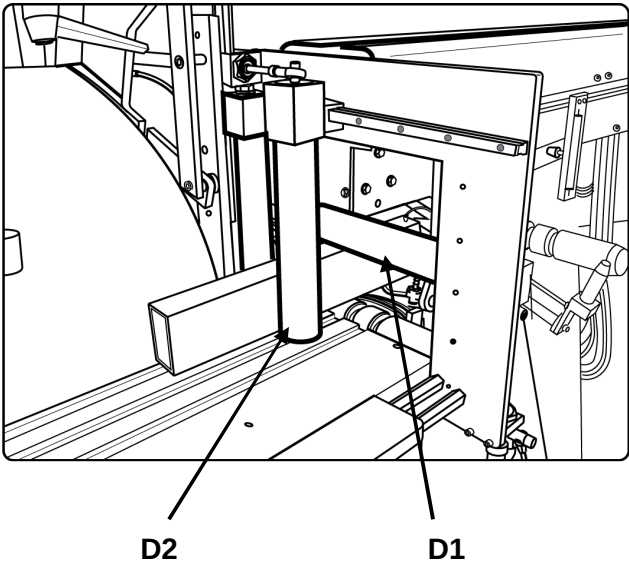

Fig. 06-03
5. When the bar, having left the multispindle, is transferred onto the sawing machine, it is held by a system of rollers '**D1 / D2**' - **Fig. 06-03** located at the entry to the sawing machine which allow perfect alignment with the work table, after which the bar is also clamped by the sawing machine vice; the saw blade then trims the bar after which the vices release the piece.